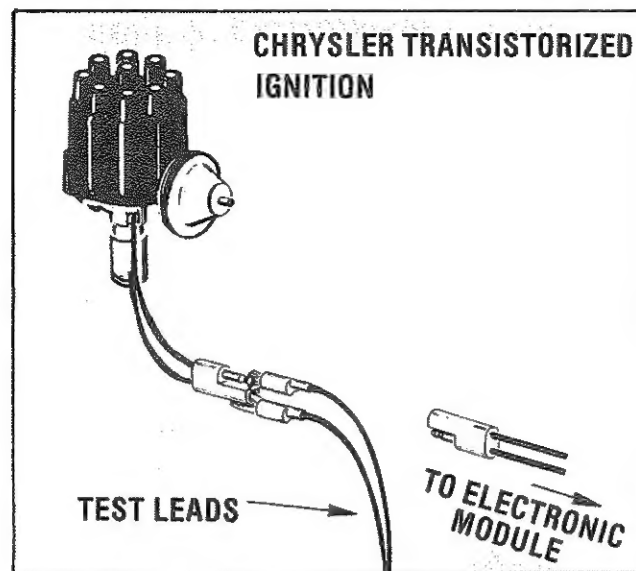

Figure 23. Chrysler Transistorized Ignition Test Hookup.
3. Disconnect two-wire connector between the distributor and electronic module. Connect the Red and Black test leads to the distributor side of the connector as shown in figure 23.